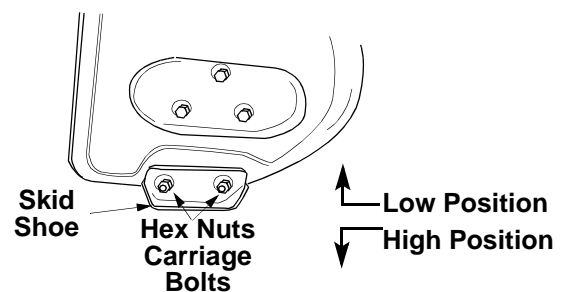

Figure 18
1. Place skid shoes in the low position to remove snow close to the ground. Place skid shoes in a higher position to remove snow from uneven ground. See Figure 18.